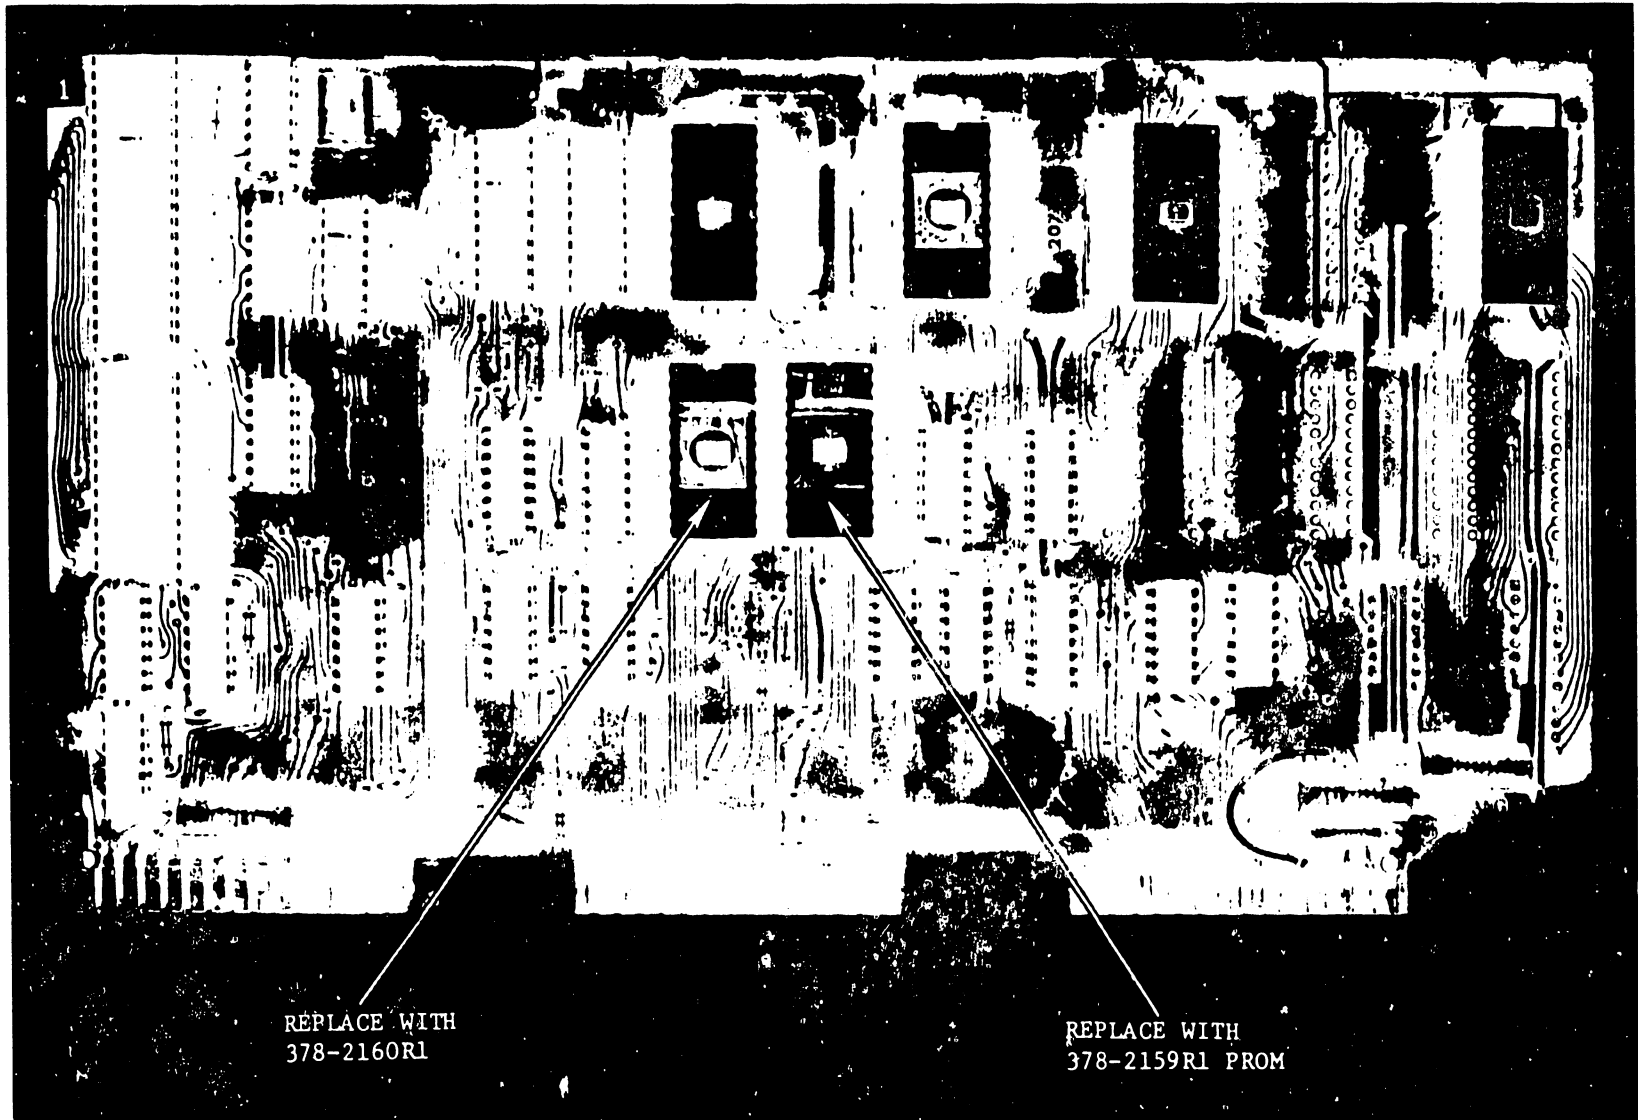

FIGURE 8-5 7131 PCB
1. On the 210-7131 board, proceed as follows: (Ref: Fig. 8-5)